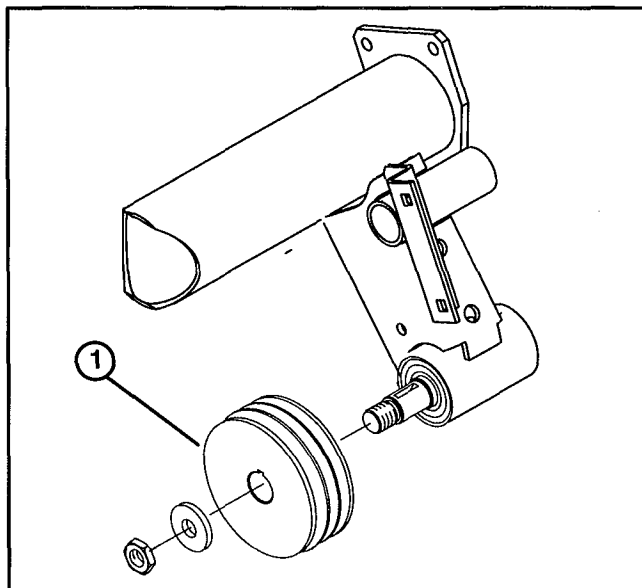

Figure 10
43. Install new pulley to jackshaft with new nut and washer. Pulley to be positioned so small sheave is toward front of machine (Fig. 10).